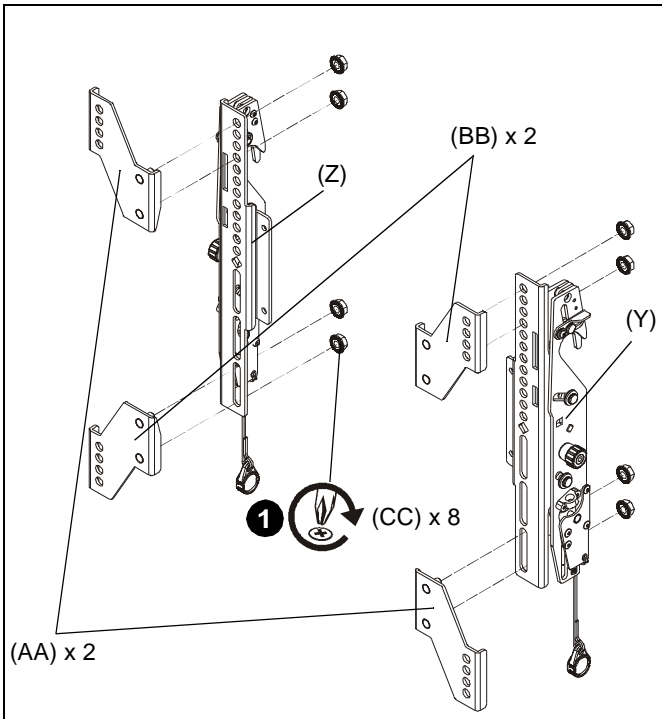

Figure 5
1. **(325x325mm to 400x400mm hole patterns ONLY)** Use eight 5/16-18 hex nuts (CC) to secure four 400x400mm adapter brackets (AA and BB) to two interface brackets (Y and Z). (See Figure 5)